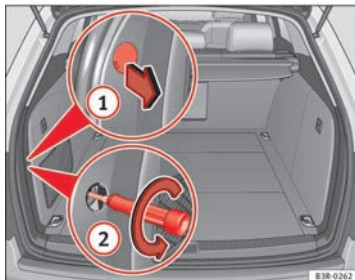
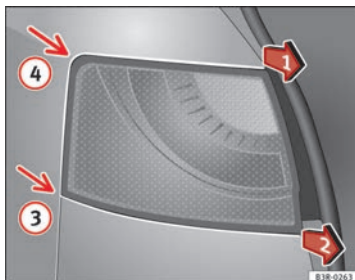

Fig. 223 Luggage compartment: Location of the bolt securing the tail light unit
Fig. 224 Removing tail light from side panel
- Prise off the cover with a screwdriver in the slot ⇒ Fig. 223 ① and remove the cover (with all the retaining clips) from the opening.
- Carefully loosen the screw located behind the cover with a screwdriver, turning it anticlockwise (arrows) ②.
- Gradually ease the tail light out of the housing (⇒ Fig. 224 positions ③ and ④) by pulling alternately in positions ① and ②.